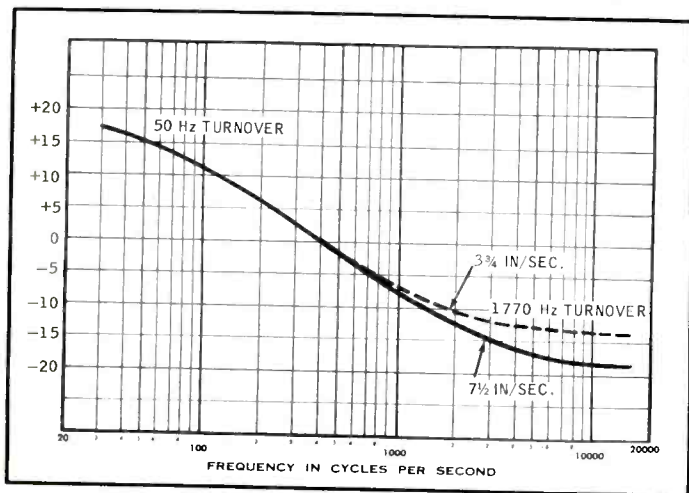

Fig. 1. Reproducing characteristics for magnetic tape records as provided by the RIAA Tape Standards. Reference frequency, 400 Hz; Tolerance:  $\pm 2$  dB
Figure 1 shows the playback equalization curves recommended by RIAA for 7.5 and 3.75 ips. Standard 9.1 states, "This is exclusive of any modifications to the characteristics required to correct for head losses." In other words the playback equalization in Fig. 1 can be altered (less treble cut and/or additional bass boost) to compensate for frequency losses of the playback head. Because the above quotation appears in a section titled "Reproducing Characteristic," it must be interpreted as applying only to the playback head.
15 ips, and in the past 10 years has come into increasing use for 7.5 ips as well. For a number of years all or nearly all 7.5-ips recorded tapes have incorporated NAB equalization; that is, they produce flat response when played back with the 7.5-ips curve in Fig. 1. It is to be hoped that those tape recorder manufacturers who do not yet provide RIAA (same as NAB) equalization at 7.5 ips will be prompted by the new standard to fall in line.
2. If you study Fig. 1, you'll see that the curves for 7.5 and 3.75 ips are at most 5 dB apart at the high end. An intermediate curve, with 70- $\mu$ sec turnover, would be within 2.5 dB of being correct for either 7.5 or 3.75 ips. Hence a moderately priced tape machine could save money by providing only one playback characteristic for both 7.5 and 3.75 ips, and yet be within 2.5 dB of correct equalization at each speed. A 2.5-dB error is barely, if at all, audible, and easily corrected by a slight touchup of the treble control in one's audio system. It should be noted in Fig. 1 that the standard permits 2 dB tolerance for the playback curve. A deviation of 2.5 dB instead of 2 dB from the nominal curve is not unforgivable.